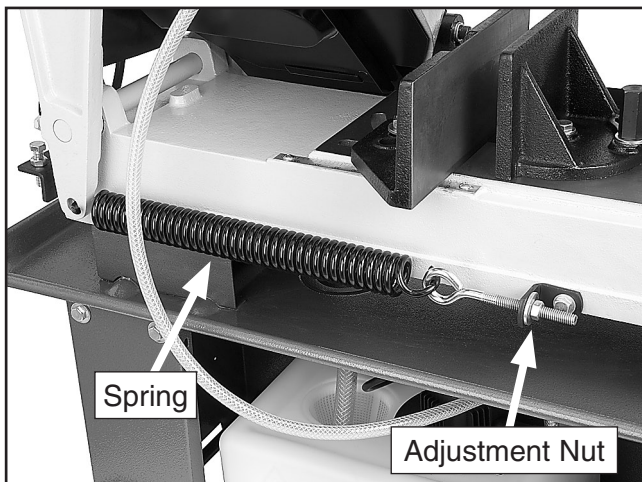

Figure 30. Spring tension adjustment.
2. Using a $\frac{9}{16}$ " wrench, adjust the feed pressure tension spring. Tighten enough to remove play but not enough to apply tension to the spring (see **Figure 30**).